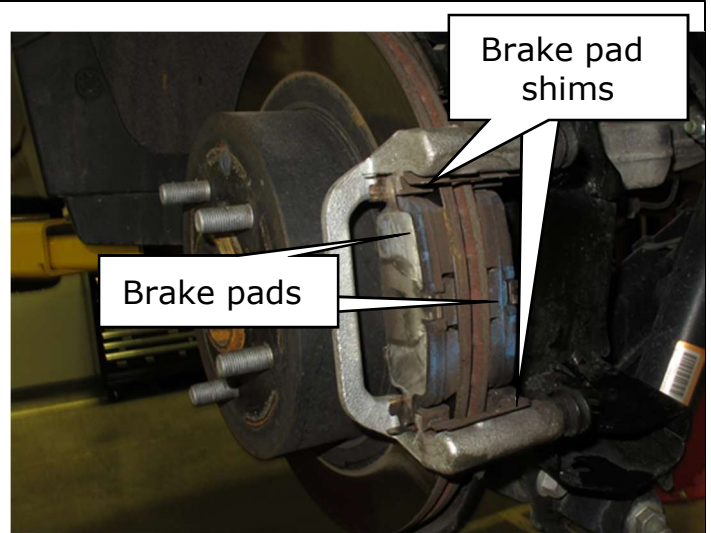

Figure 11
11. Reinstall the brake pad shims and brake pads onto the torque member assembly. (Figure 11)